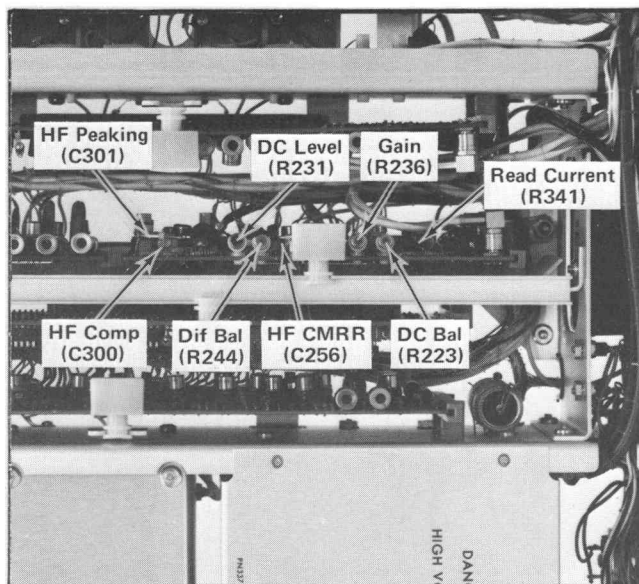

Fig. 5-14. Location of Z Axis adjustments.
d. ADJUST—Z Gain, R236, (see Fig. 5-14) for a peak-to-peak output at pin S of 20 V.
d. ADJUST—Z Dif Bal, R244, (see Fig. 5-14) for minimum output (as displayed on the test oscilloscope) less than 0.4 volts.
d. ADJUST—C300, C301 (see Fig. 5-14) for optimum square corner of the displayed waveform; aberrations within 5% of displayed waveform amplitude.